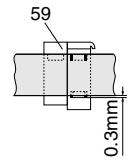

Fig. 8
- Adjust the A/C head precisely to 0.3mm with the height adjustment screw (Pos. 201) in Playback mode as shown in Fig. 8.